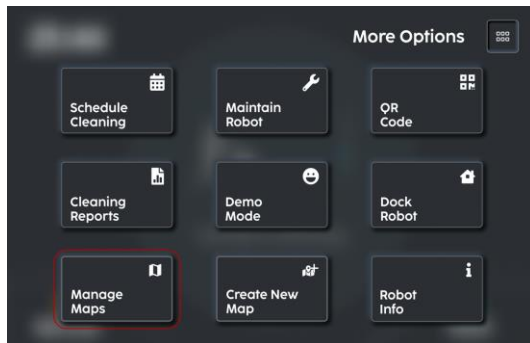

FIGURE 4-1
1. On the 'More Options' page, select 'Manage Maps' (Fig. 4-1).